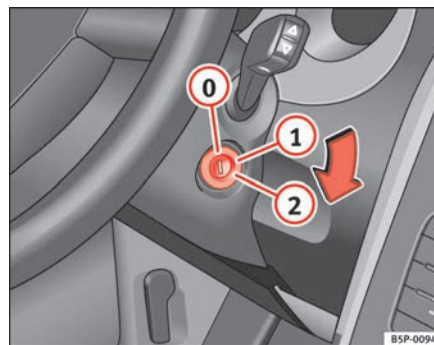

Fig. 135 Ignition key positions
In the position ⇒ fig. 135 the ignition and the engine are OFF and the steering may be locked.
- Turn the ignition key to position ⇒ page 162, fig. 135 ①. The indication lamp  will light for engine pre-heating.
- When the warning lamp goes out, turn the key to position ② to start the engine. Do not press the accelerator.
- Turn the ignition key to position ⇒ page 162, fig. 135 ①.